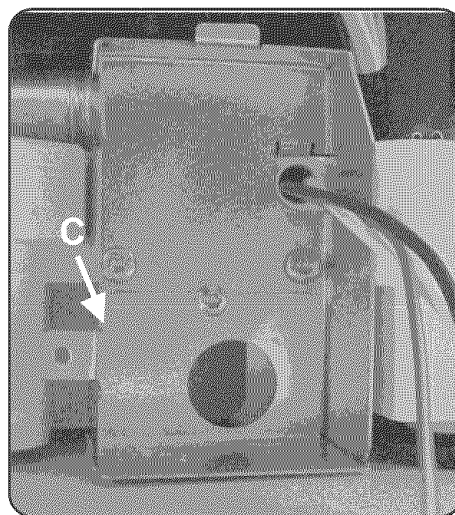

Figure 12
- 1) Remove the junction box cover by removing the screw on the left side of the junction box, as shown in Figure 12, letter C, and lifting the junction box cover up and off.